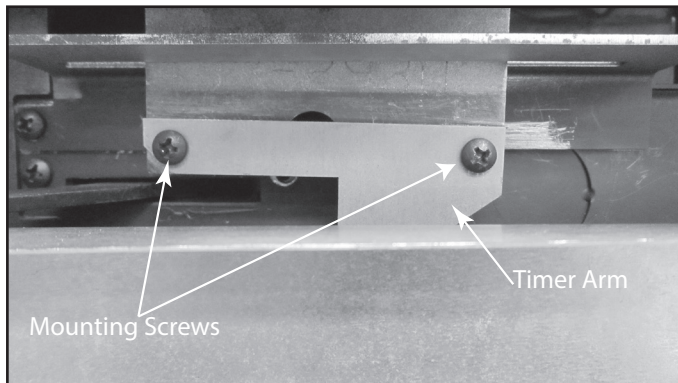

Figure 4.21 Re-attach Timer Arm
- Re-attach the timer arm. See Figure 4.21.